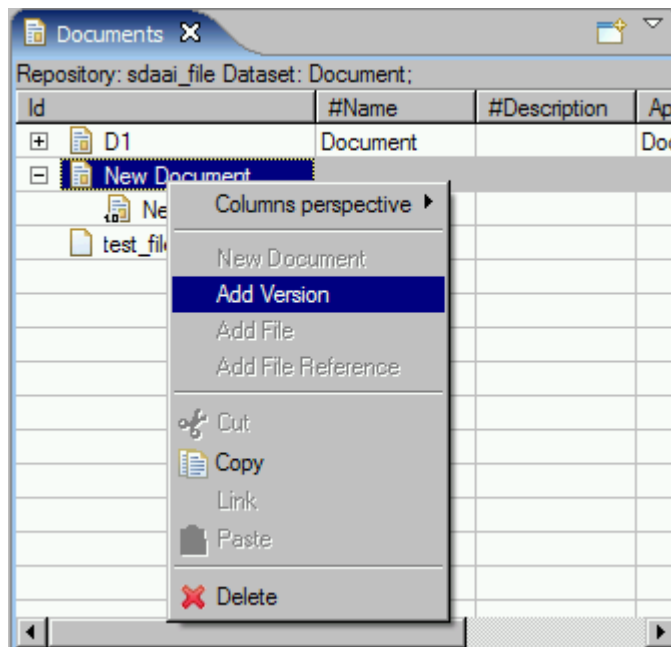

Figure 1. Add Version menu item
- Select the **Add Version** menu item in the appeared context sensitive menu (see Figure 1).